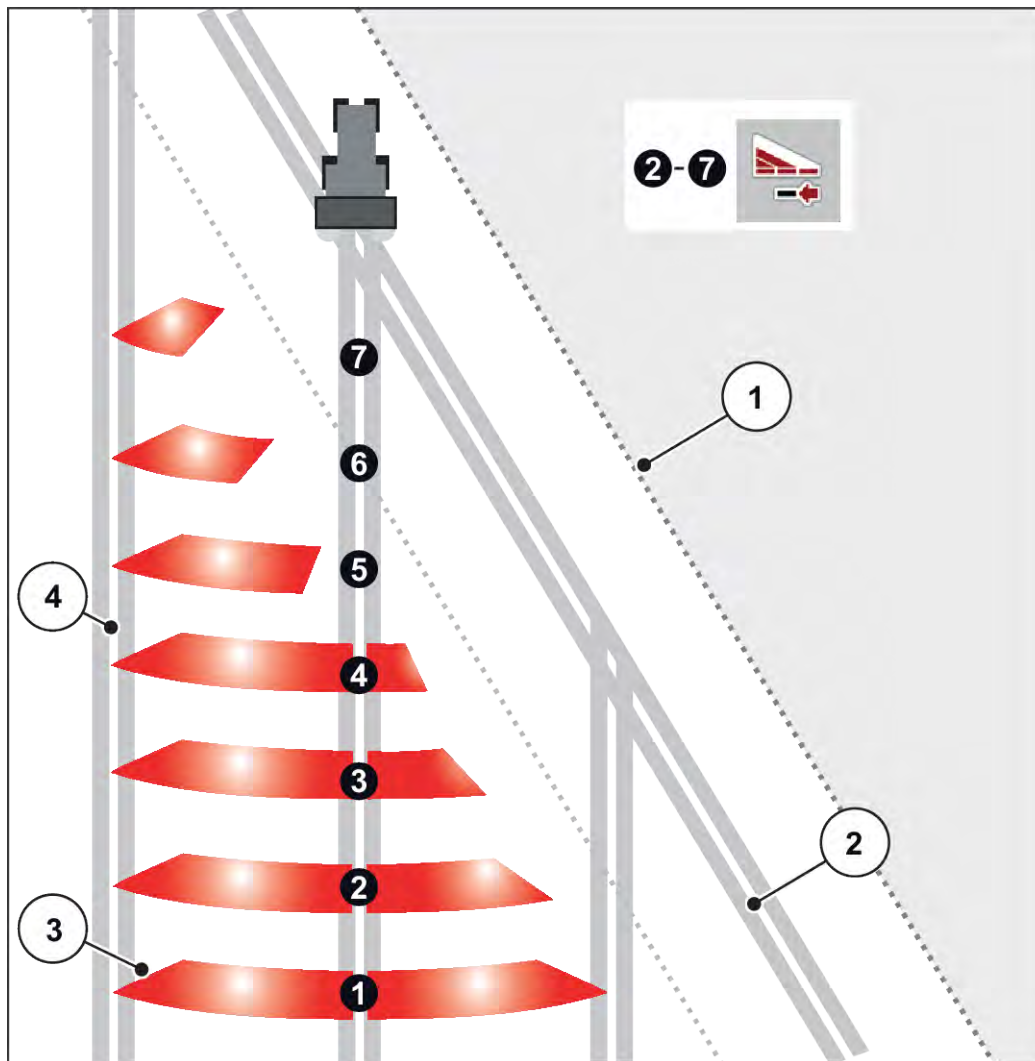

Fig. 45: Automatic section control
- Section control is possible from the outside to the inside or vice versa. See *Fig. 45 Automatic section control*